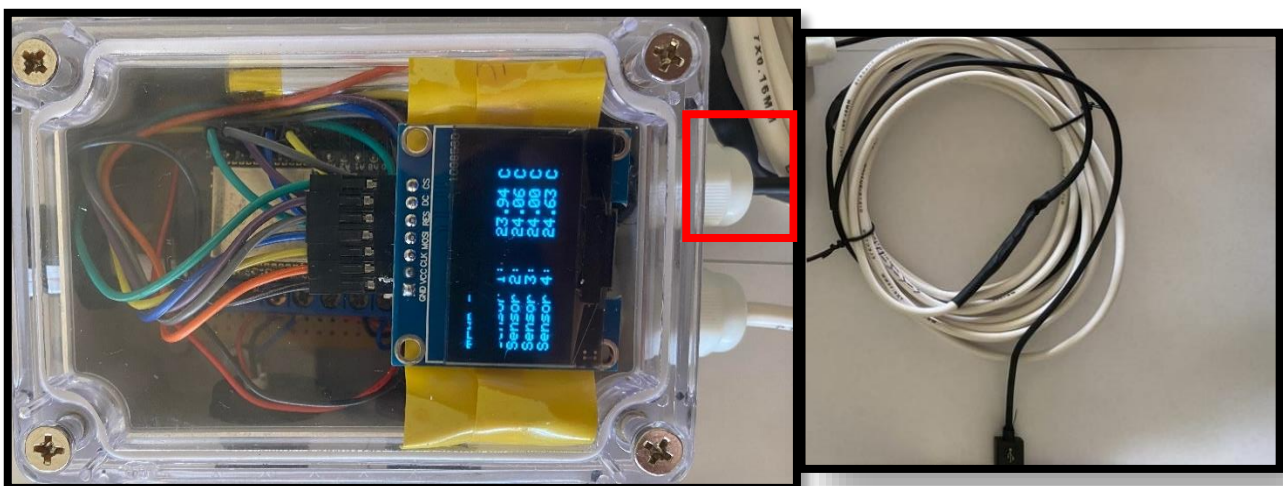
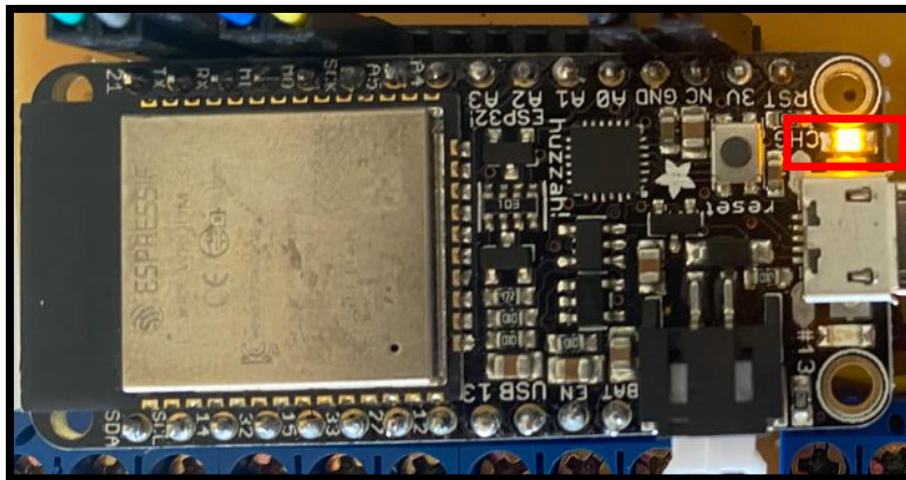

Figure 1: Mains Power Connection Location
Figure 2: Microcontroller Yellow Indicator Location
iii) As the LiPO battery levels will be drained completely upon delivery, functionality while connected to mains power should be tested first. Connect the microcontroller to mains power using the **black -> white** USB connector protruding from the **white** gland in Figure 1.
- Observe if yellow indicator LED on the microcontroller (*directly in line with the power cord in Figure 1*) is illuminated as shown in Figure 2.